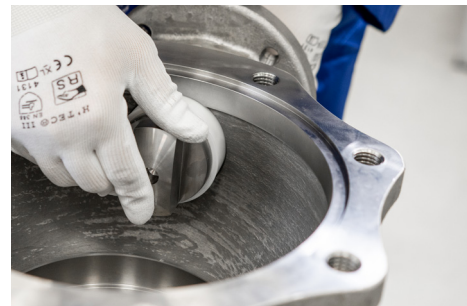

Figure 3
3. Insert stem (#4) through the valve body cavity, allowing the SX seal (#7) to be seated into the body counter bore. (see Fig. 3).
Fix it behind the ear and align the hole in the locking plate with hole for SHC screw on hand lever (Figure 3).